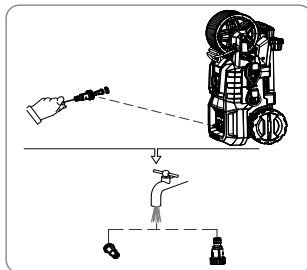

Fig. 18
1. Cleaning of water inlet filter (fig. 18)